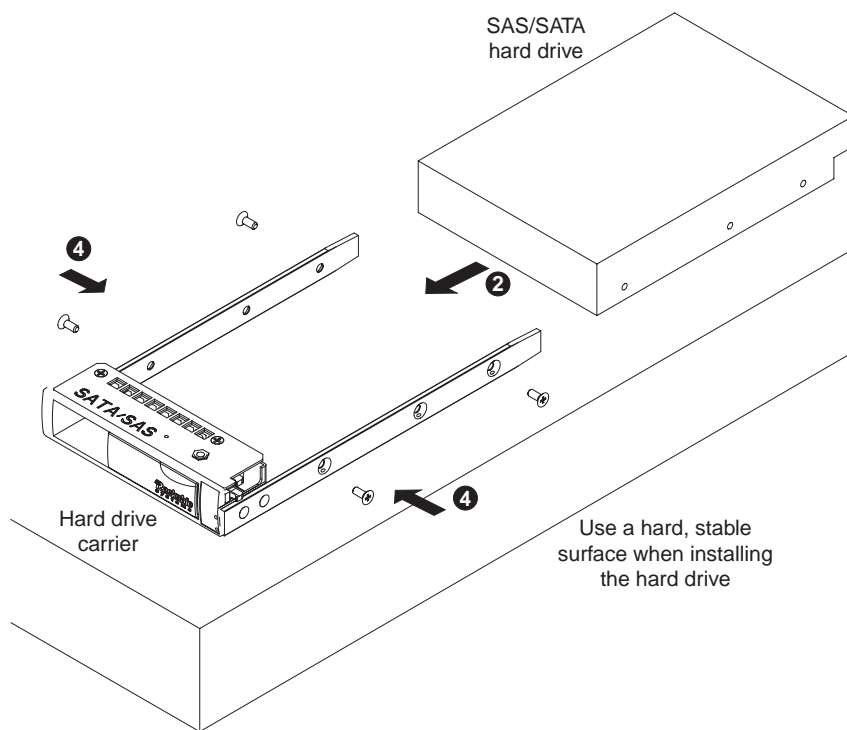

Figure 3-1 Inserting Hard Drive into Carrier
2. Slide the hard drive into the carrier with the printed circuit board side facing down (see Figure 3-1).
4. Secure the hard drive using all four screws (see Figure 3-1).